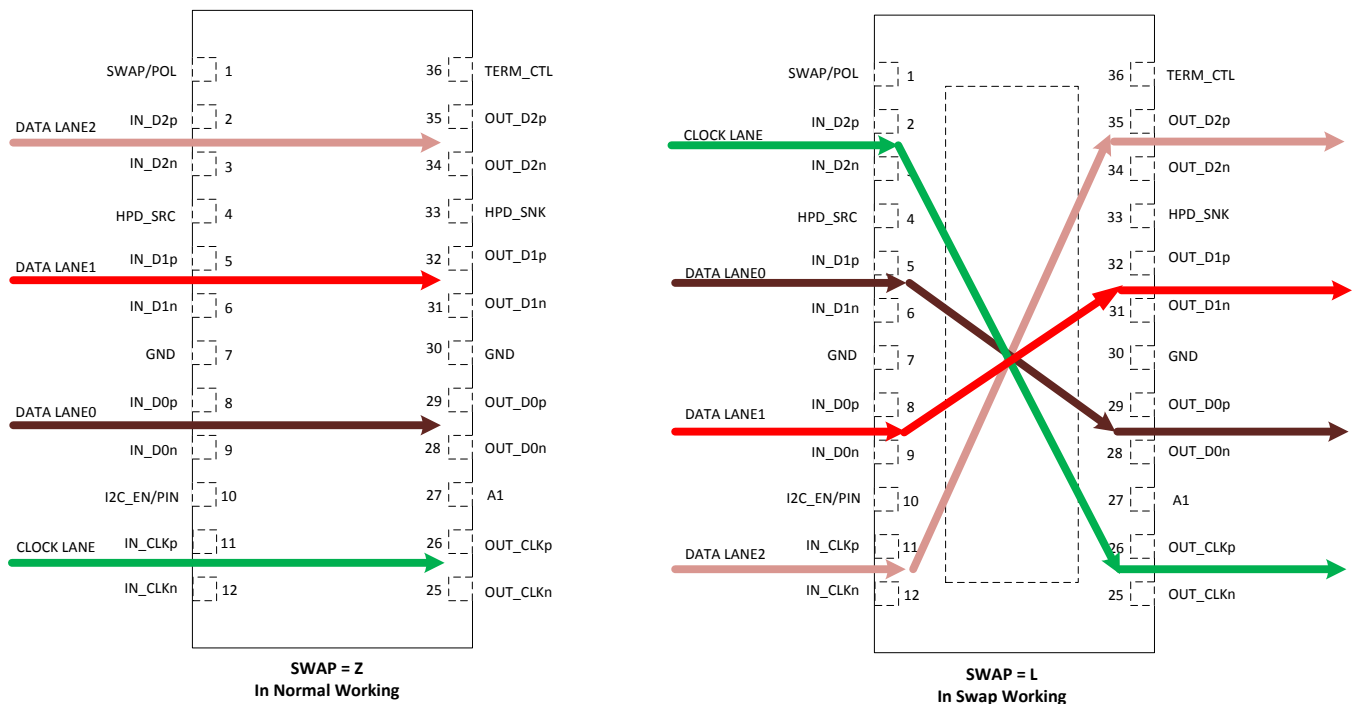

Figure 26. TMDS181 Swap Function
TMDS181 incorporates swap function, which can set the input lanes in swap mode. The IN\_D2 routes to the OUT\_CLK position. The IN\_D1 swaps with IN\_D0. The swap function only changes the input pins. The EQ setup follows the new mapping (see Figure 26). This function can be used with the SWAP/POL pin 1 and control the register 0x09h bit 7 for SWAP enable. Lane swap function works in both redriver and retimer mode.
(1) The output lanes never change, only the input lanes change. See Figure 26.